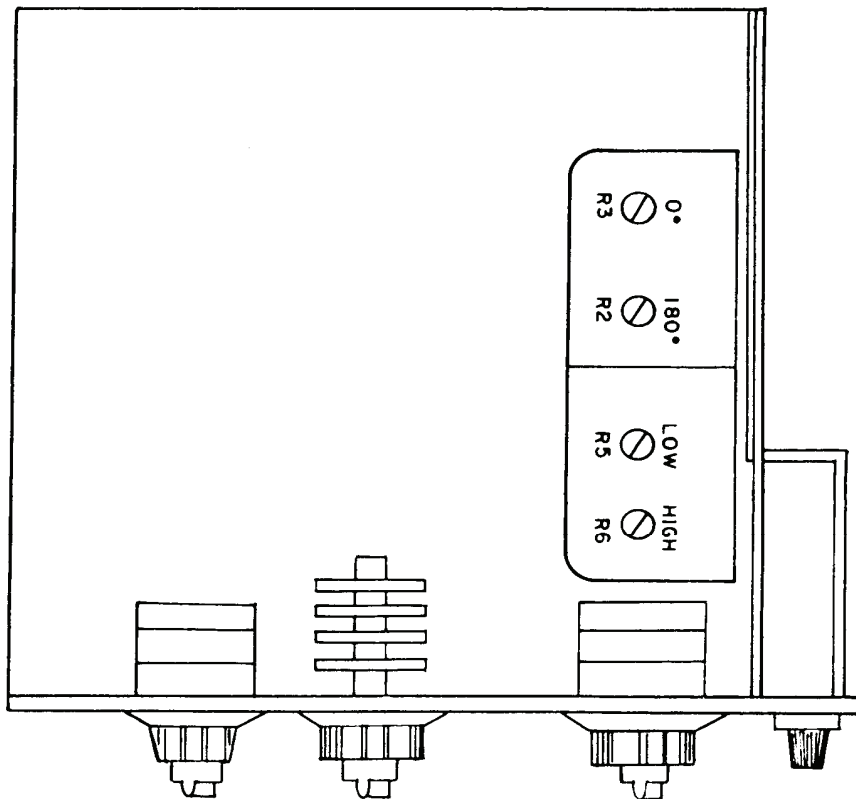

Figure 5. Model 3302A - top view.
(1) Repeat **a** (3) and (4) above and adjust R5 (fig. 5) until meter pointer is centered and the two displays on oscilloscope are in phase (R).
(2) Repeat **a** (7) above and adjust R6 (fig. 5) for indication in **b** (1) above (R).
(1) Obtain phase lock and adjust **PHASE** dial to 0 degree. Adjust R3 (fig. 5) until the two displays are in phase (R).
(2) Obtain phase lock and adjust **PHASE** dial to 180 degrees and adjust R2 (fig. 5) until the two displays are in phase (R).